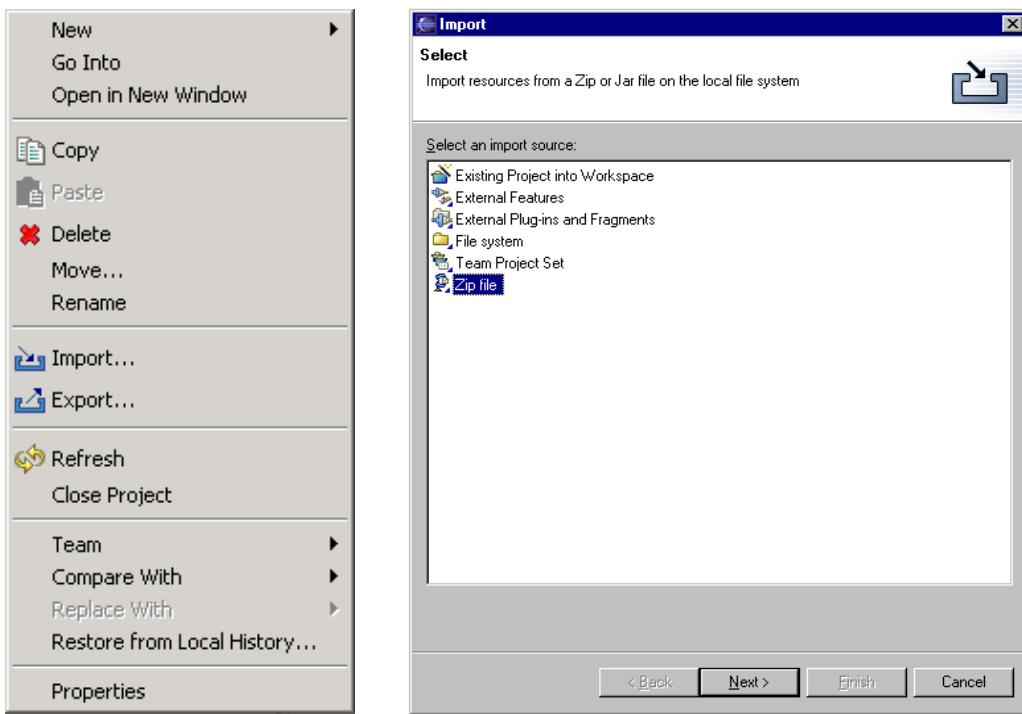
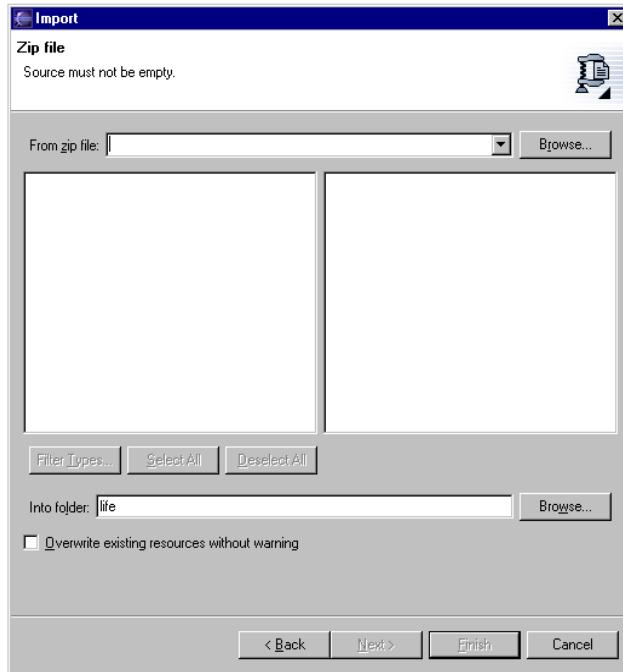

Figure 5: (a).Project Options Menu.
Figure 6: Import panel windows.
After having created a new project, the next step is to add the *life* example model to the project. Select the project on the navigator view and right click on it. On the menu [Figure 5(a)], select “Import...”. This will open the panel shown in Figure 5(b).
Since the Life example model is compressed in a Zip file, select *Zip file* and click *Next*. Another panel [Figure 6] will open asking to enter the name of the zip file to be imported. To locate the zip file click on the *Browse...* button located on the top right of the panel, open *life2d.zip* and click *Finish*.
Step 5. In the navigator window right-click on the project titled “atm” and select import. The import panel should pop up shown in Figure 5(b). Select “zip”, click next and a new window will popup shown in Figure 6.
Step 6. Click on the *Browse* button located on the top right of the window [shown in Figure 6] browse to and open *atm.zip* and click *Finish*.